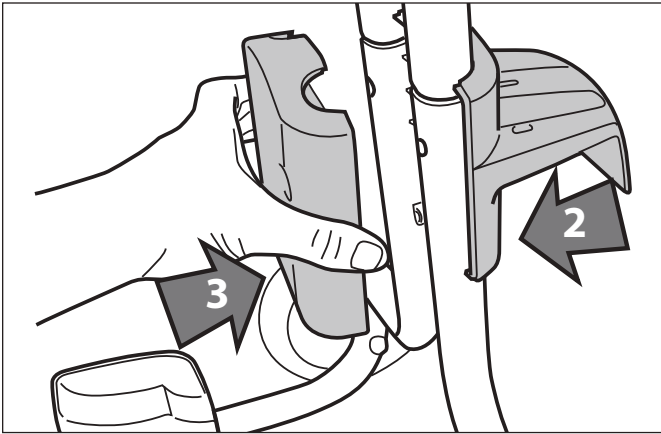
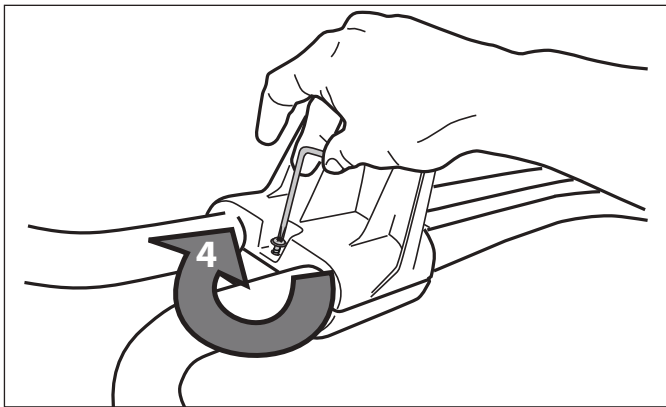

Figure 3. Position the Bottom Power Cable Hook
Figure 4. Secure the Bottom Power Cable Hook
2. Position the bottom power cable hook as shown in Figure 3. Place the cable hook plate opposite the power cable hook. Secure using a screw and tightening with the Torx® wrench. Refer to Figure 4.